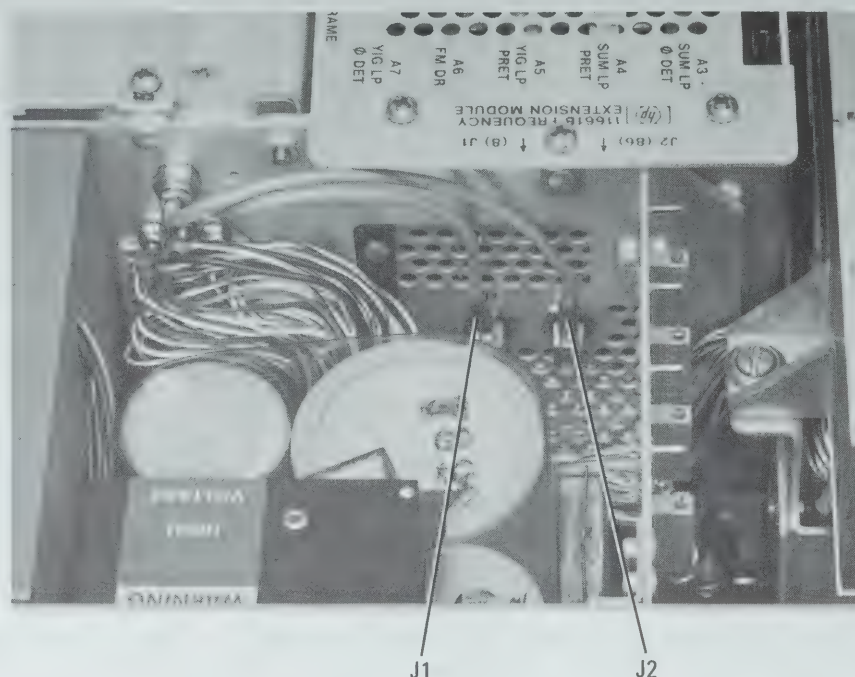

Figure 6-2. Location of J1 and J2
- 6-3. Turn the instrument off and unplug the mainframe from the power line and connect a microwave frequency counter to J2 (see Figure 6-2) in place of the gray/blue coax or to the 11707A 2.75-3.95 GHz output jack. Turn on the instrument and program 0000. MHz Center Frequency. Successively program zero through 1200 MHz in 100 MHz steps. The counter reading should be as shown in Appendix A Table 7, YIG loop frequency. If OK, continue, otherwise branch to paragraph 6-17.